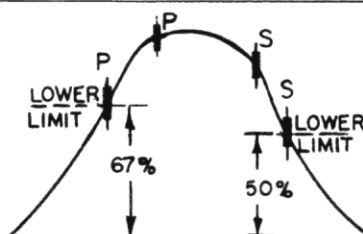

Fig. 20. Channels 13-7 Alignment Curve
4. When aligning the high frequency coils (Steps 9 thru 15), the video carrier marker and the sound carrier marker should fall one on each side of the peak of the curve. See Figure 20.